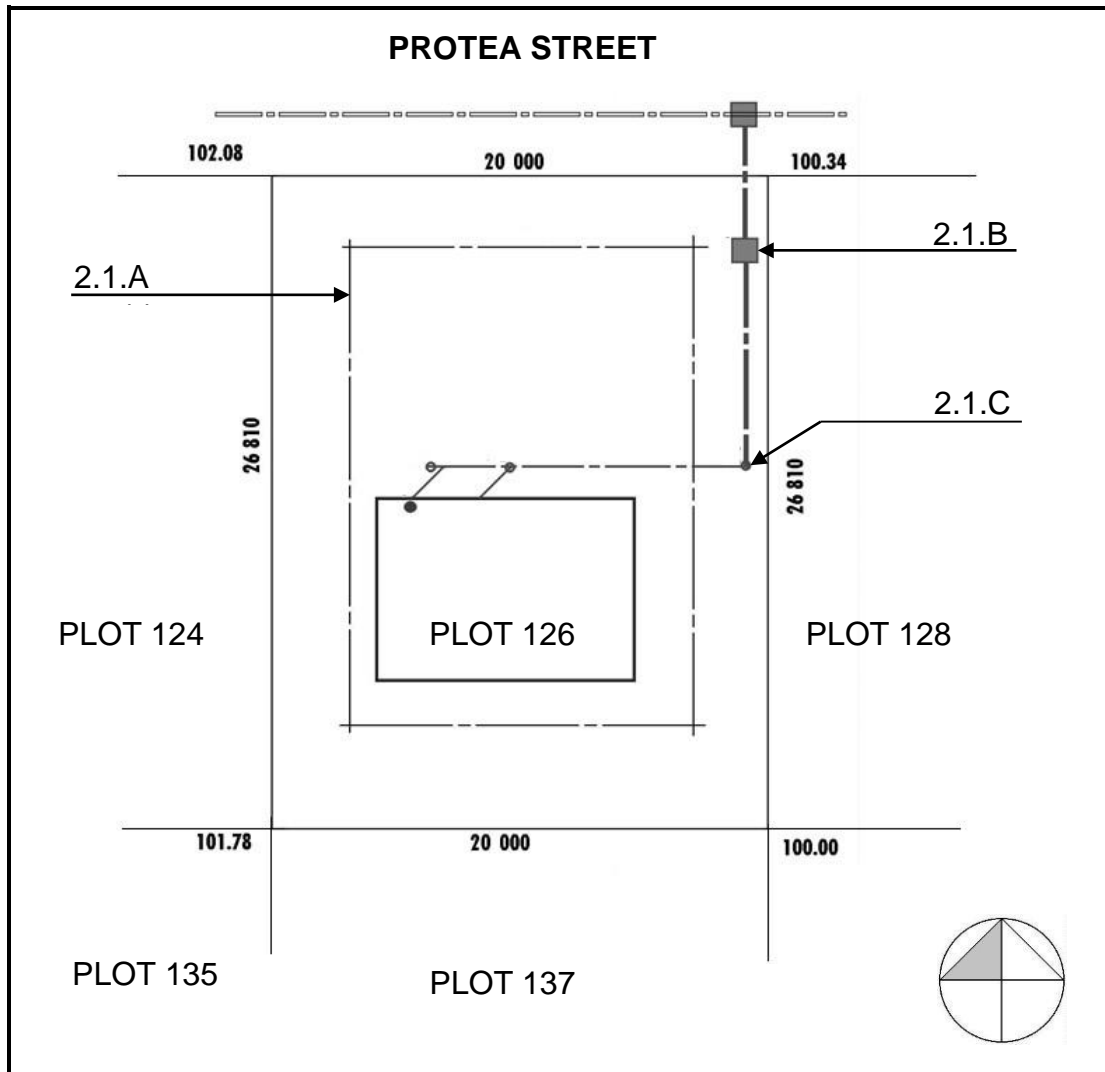

FIGURE 2.1
2.1 Answer the following questions with regard to the plan elevation in **FIGURE 2.1**.